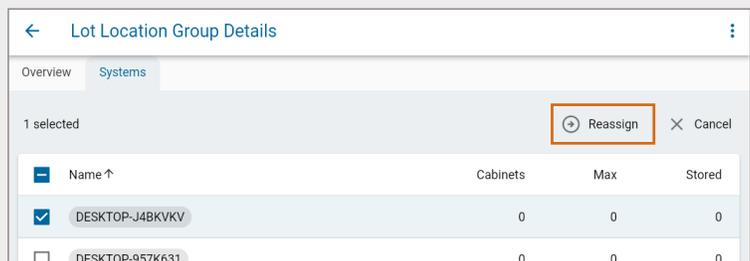

Fig. 247 – Reassign system to a new lot location group
6. Once you have the desired systems selected, select **Reassign**  , as shown in Fig. 247.